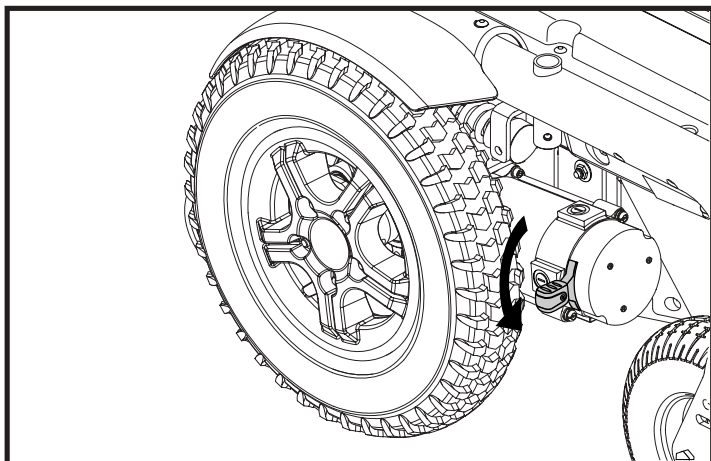

Figure 8. Freewheel Mode (Drive Disengaged)
For your convenience, your power chair is equipped with two manual freewheel levers mounted on the motors. Depending on which motors your power chair is equipped with, you will have one of two possible freewheel levers. See figures 8 and 9. These levers allow you to disengage the drive motors and manoeuvre the chair manually. You can manually push the power chair by the seatback or push the power base itself if the seat is removed.
1. Push the manual freewheel levers down for freewheel mode (drive disengaged). See figure 8.